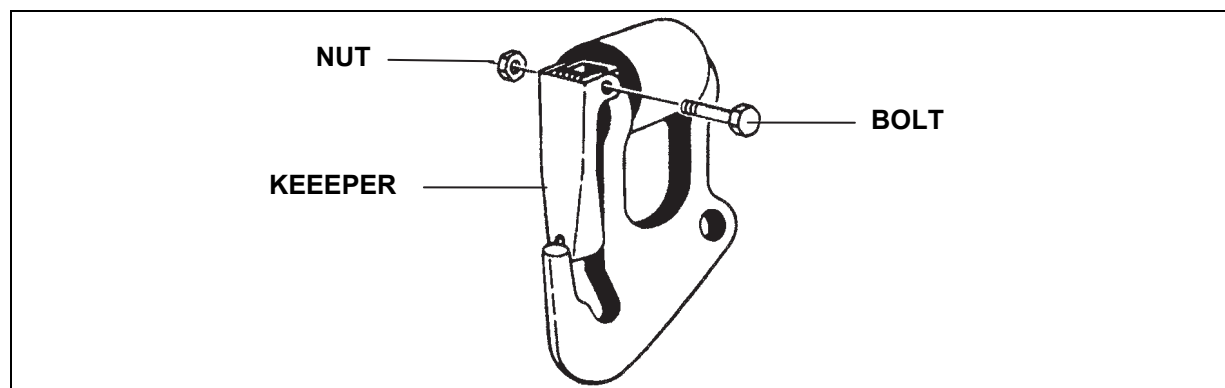

Figure 6-18. Bolt and Nut Removed from Grabhook
- Using a pin punch and hammer, drive out the roll pin. If the roll pin has been replaced by a bolt and nut, unscrew the nut and remove the bolt (figure 6-18).